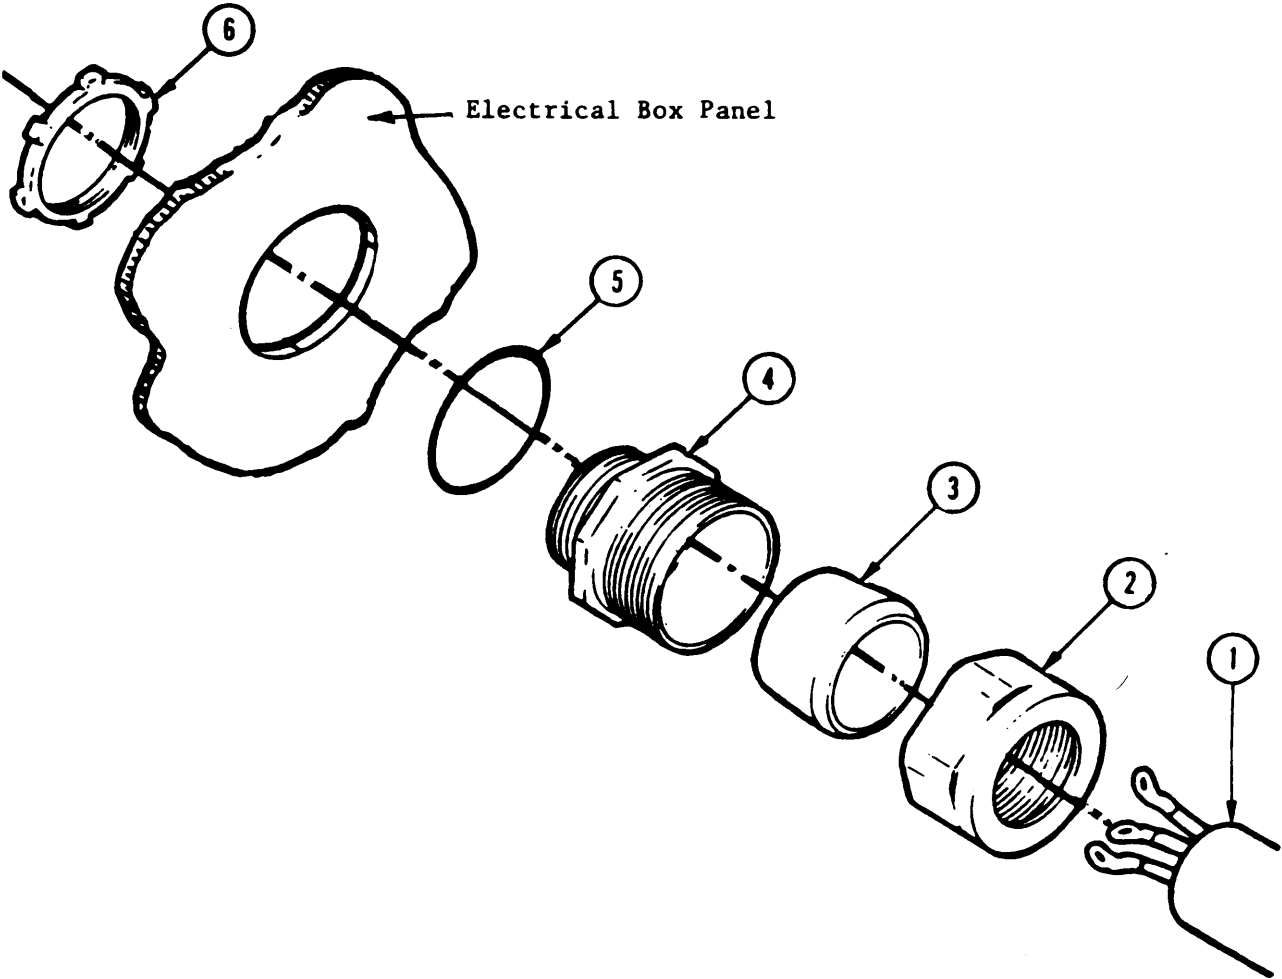

Figure 2-70. Onboard Cable Sealing Grip
b. Removal. (Figure 2-70)
(1) Shut off primary power and apply tags to all wires for later ease of reassembly.
(2) Open junction, control, or conduit box as applicable, depending on unit to be repaired. Disconnect all wires of the power cable.
(3) Unscrew compression nut (2) from cable grip nut (4) and slide compression nut (2) up power cable (1).
(4) Gently pull power cable (1) out until compression fitting (3) pulls free of cable grip nut (4) and remove remaining cable.
(5) Remove retaining nut (6) from cable grip nut (4).
(6) Remove O-ring (5) from cable grip nut (4). Discard O-ring (5).
(7) Remove compression fitting (3) from power cable (1).
(8) Remove compression nut (2) from power cable (1).